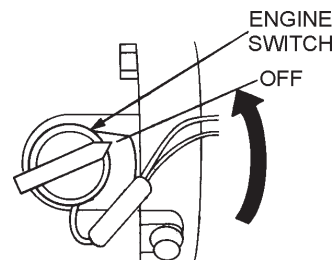

Figure 16. Engine ON/OFF Switch (OFF)
- After the engine **cools**, turn the engine ON/OFF switch to the **"OFF"** position (Figure 16).